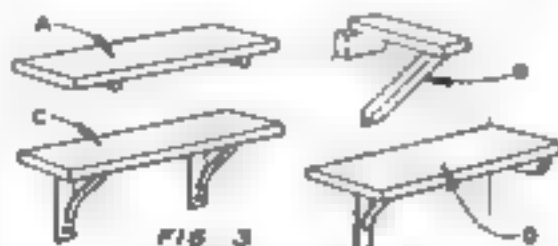

FIG. 3
1. The primitive shelf was supported by pegs or iron rods driven into a log wall or masonry, as at A, Fig. 3, or by a wooden brace as at B until the more convenient iron bracket of C was adopted. The form of shelf at D is also common.